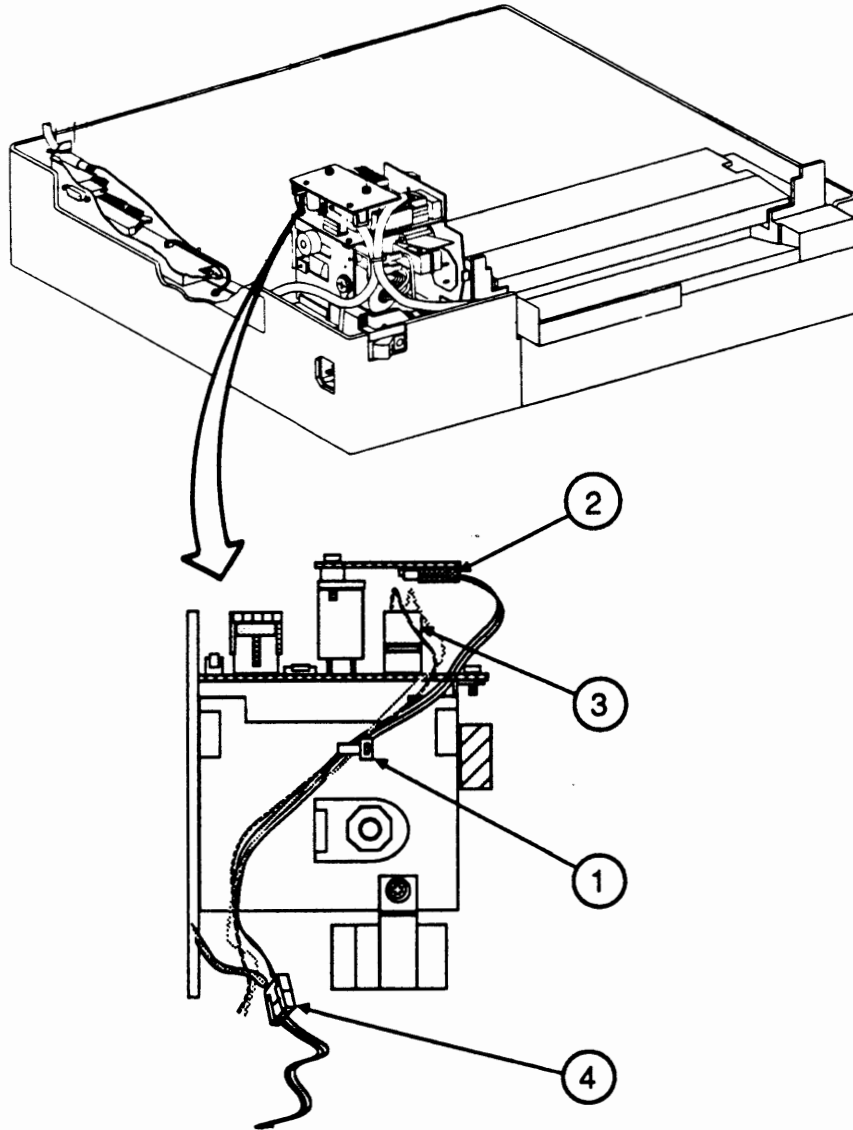

FIGURE 2-60
6. On the two-board AC Driver PCB (Appendix, Photo 8, #1), reconnect the cable to J104 on the upper PC board (Figure 2-60, #2) and the cable to J102 on the lower PC board (Figure 2-60, #3). Tie the cables together with a cable tie (Figure 2-60, #1).
7. Reconnect the black-and-white fuser assembly connector (Figure 2-60, #4) to its mate.